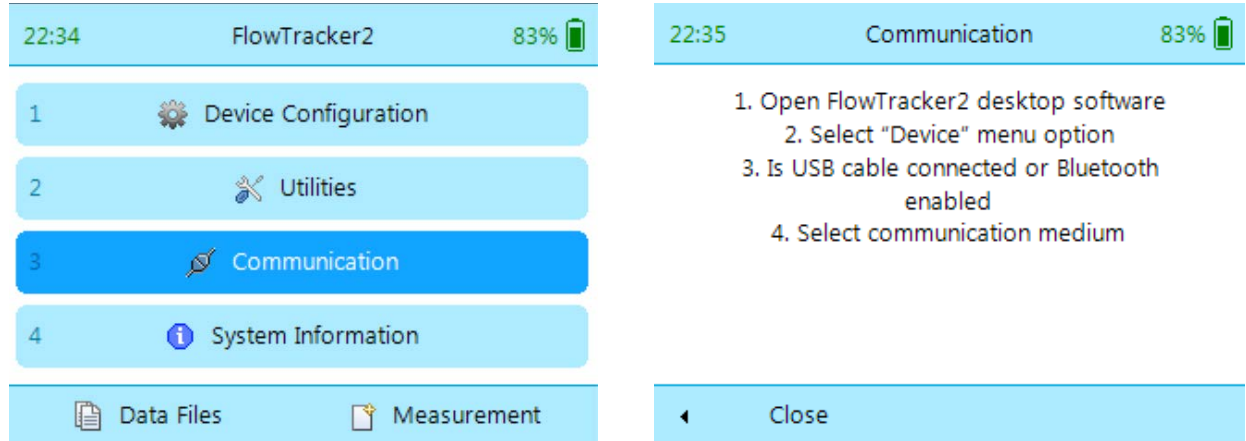

Figure 14:15. Communication dialog
- From the main menu, navigate to the Communications button (Left panel of Figure 14:15) and click the Center Key. The FlowTracker2 will wait for a signal from the PC, showing the screen in the right panel of Figure 14:15.
- Once successfully connected, the FlowTracker2 data files will be listed, as shown in Figure 14:17. The handheld will indicate that it is connected to your computer.